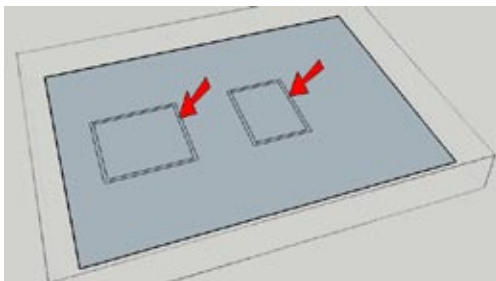

Figure 6-37
9. Because these edges are along the tower walls, they would be visible from outside the tower. To create the floor so that its edges cannot be seen from the outside, use the Offset tool to offset the new faces slightly inward (Figure 6-37). After you complete one offset, you can double-click subsequent offset faces to offset them by the same distance.